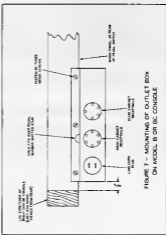

FIGURE 7 - MOUNTING OF OUTLET BOX ON MODEL B OR B.C. CONSOLE
- (d) Follow remaining part of step 6 and follow steps 7 and 8. Figure 7 shows position in which outlet box should be mounted on console.